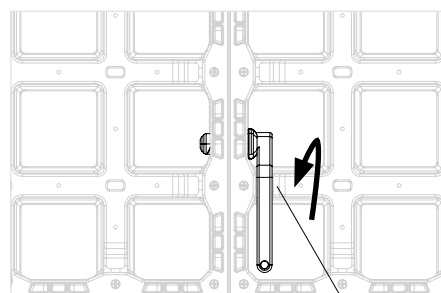
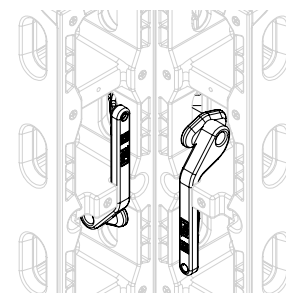

Fig. A3.03d
Fig. A3.03e
2. Swivel the hand grip until it completely disappears in the coupler recess of the DP panel. (Fig. A3.03d + Fig. A3.03e)
If inserted from the left, the hand grip has to be swivelled upwards. (Fig. A3.03e)